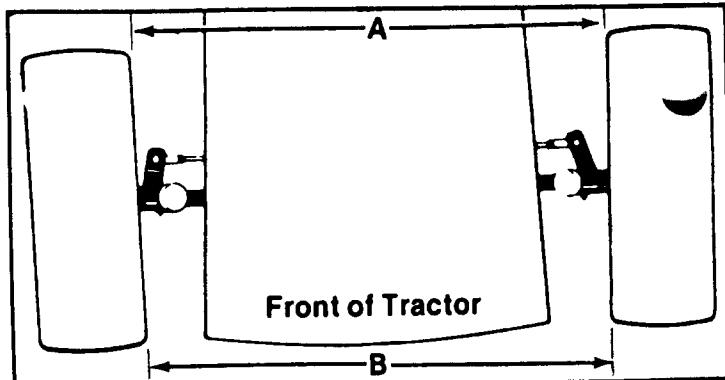

FIGURE 22. TOE-IN DIAGRAM
3. Adjust the tie rod assembly for correct toe-in. Dimension "B" should be approximately $\frac{1}{8}$ " less than Dimension "A". See figure 22.